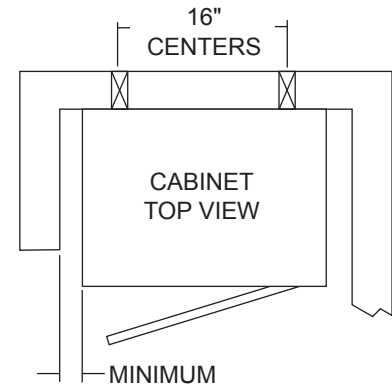

Figure 9
For greater security the cabinet must be fastened to a solid surface with a minimum space on either side. Ideally the cabinet would be installed on the side wall of a closet. (See figure 9)
The (4) mounting holes in the rear of the cabinet must line up with the 16" centers of the wall studs. Drill new holes in the cabinet if necessary. (See figure 9)
The (4) mounting holes in the rear of the cabinet must line up with the 16" centers of the wall studs. Drill new holes if necessary. (See figure 9)